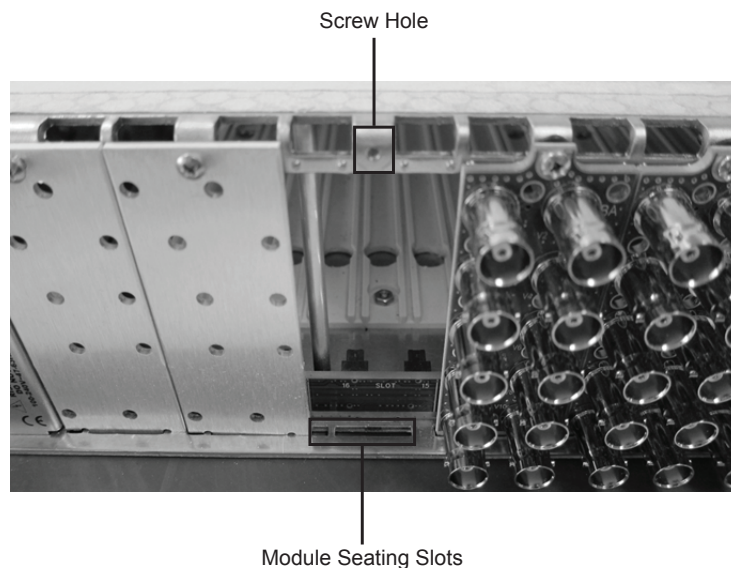

Figure 2.1 Rear Module Installation in an openGear Frame (ADA-8402-A not shown)
3. Install the bottom of the Rear Module in the **Module Seating Slot** at the base of the frame’s back plane. (**Figure 2.1**)